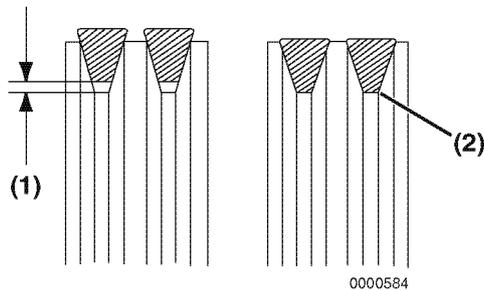

Figure 5-6
3. Tighten the V-belt to the proper tension. There must be clearance (**Figure 5-6, (1)**) between the V-belt and the bottom of the pulley groove. If there is no clearance (**Figure 5-6, (2)**) between the V-belt and the bottom of the pulley groove, replace the V-belt.
5. Inspect the condition of the used V-belt. There must be clearance (**Figure 5-6, (1)**) between the V-belt and the bottom of the pulley groove. If there is no clearance (**Figure 5-6, (2)**) between the V-belt and the bottom of the pulley groove, replace the V-belt.